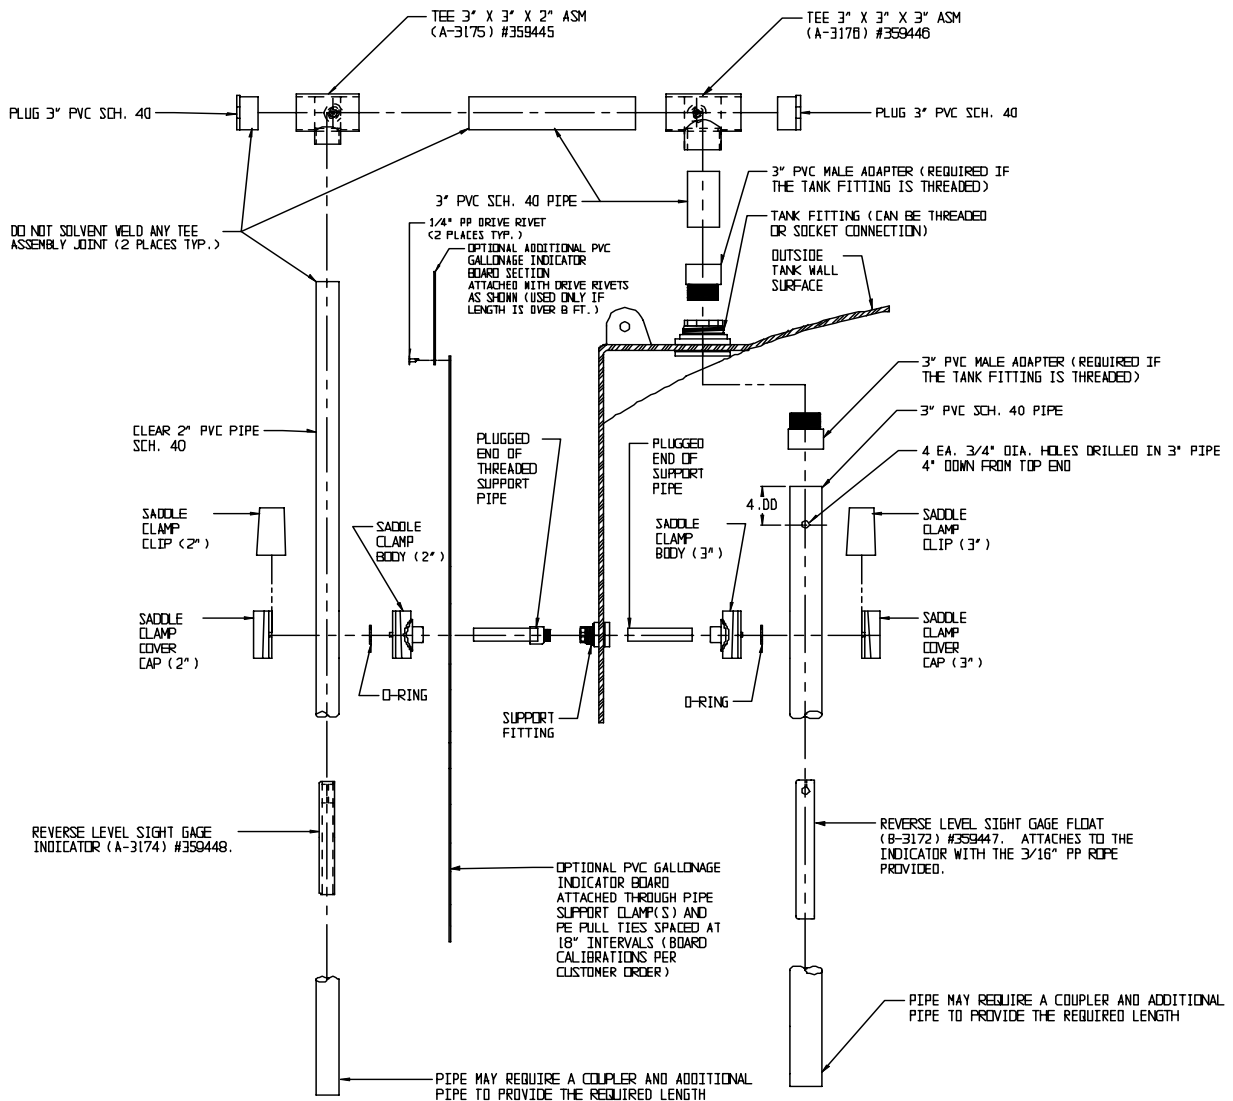

Figure 7.7
7.7.2 Assemble the piping loosely using Figure 7.7, the guidelines detailed below, and the customer approved tank drawing to ensure all parts are present and cut to length. As soon as all parts have been checked, assemble the parts with solvent weld cement and/or threaded connections as shown in Figure 7.7. NOTE - Do not use solvent weld cement on the outside joints indicated in Figure 7.7. SIERRA recommends periodic inspection of the rollers in the tee assemblies and the rope to ensure proper operation of the gage. If it is a requirement to seal these joints, a silicone based caulking should be sufficient.
7.7.3 Assemble and install the support structures as shown in Figure 7.7 (without the saddle clamp cover caps and clips). Make sure the support clamp orientation is correct (with the small width of the wedge toward the top of the tank) and that the plugged support pipes are installed with the plugged end as close to the support fitting as possible. Make sure that the indicator board has been installed over the outer pipe supports as shown in Figure 7.7. Assemble and install piping as per the customer approved drawing. As piping is being installed on the tank, lock it in place with the saddle clamp cover caps and clips provided (make sure that the sealing o-ring is in the proper position as the pipe is positioned into the saddle support body). Seal all
threaded pipe connections with Teflon pipe sealant and connect solvent weld sockets with the correct solvent cement (except the joints as noted in Figure 7.7).